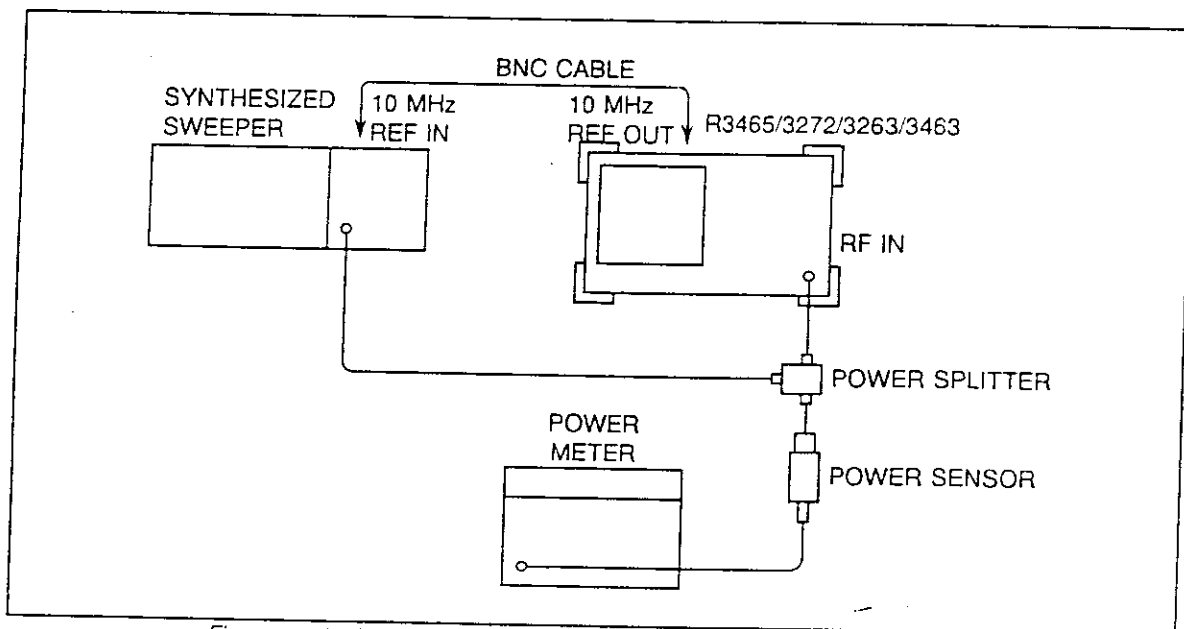

Figure 1-12 Image, Multiple and Out-of-Band Response Test Setup
(1) Connect the equipment as shown in Figure 1-12, but do not connect the power sensor.
(2) Press the **INSTR PRESET** key on the SG3 and set the controls as follows: